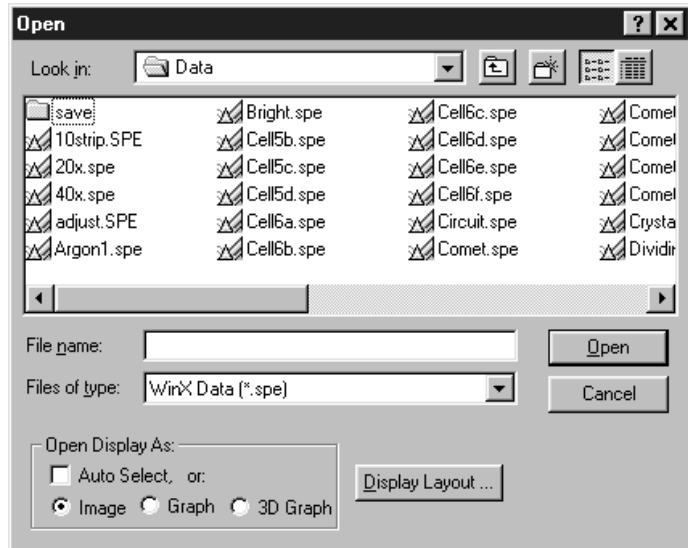

Figure 97. Open dialog box
1. From the File menu, select **Open**. The **Open** dialog box (Figure 97) will appear, allowing you to select the image to be opened. The **Look-In** field provides a browser function so you can easily find the directory where the images. By default, the data directory will be a subdirectory of the directory where WinSpec/32 was installed. Subdirectory names and the filenames of all files of the specified type (the WinSpec/32 data type is *.spe) in the current directory are listed in the box below the directory name. *The WinSpec/32 data type is WinXData (*.spe).*